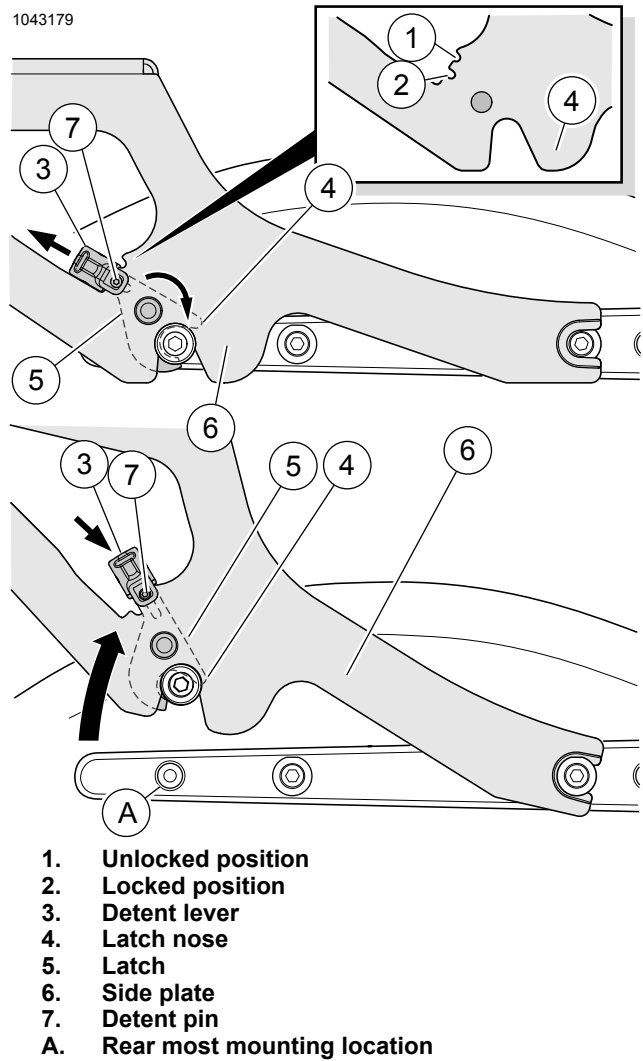

Figure 3. Detachable Two-Up Tour-Pak Mount Removal
1. See Figure 3. Remove OE screws. Right side remove rear most screw (A).
- See Figure 3. Pull both detent levers (3) rearward from the locked position (2), against the compression spring (8).